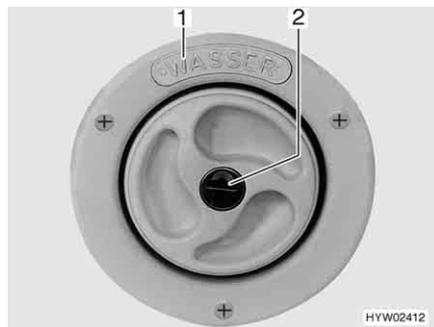
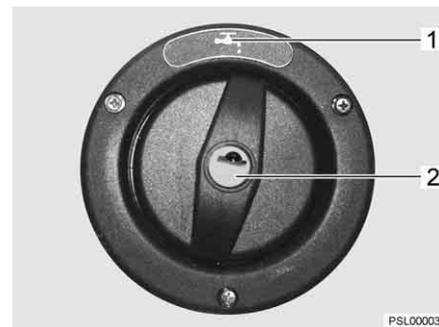

Fig. 38 Cap for the drinking water filler neck
Fig. 39 Cap for the drinking water filler neck (alternative)
- ▷ The drinking water filler neck is labelled by the word "WASSER" (water) (Fig. 38,1) or marked by the symbol "☕" (Fig. 39,1).
- Insert the key in the locking cylinder (Fig. 38,2 or Fig. 39,2) and turn it in an anticlockwise direction.